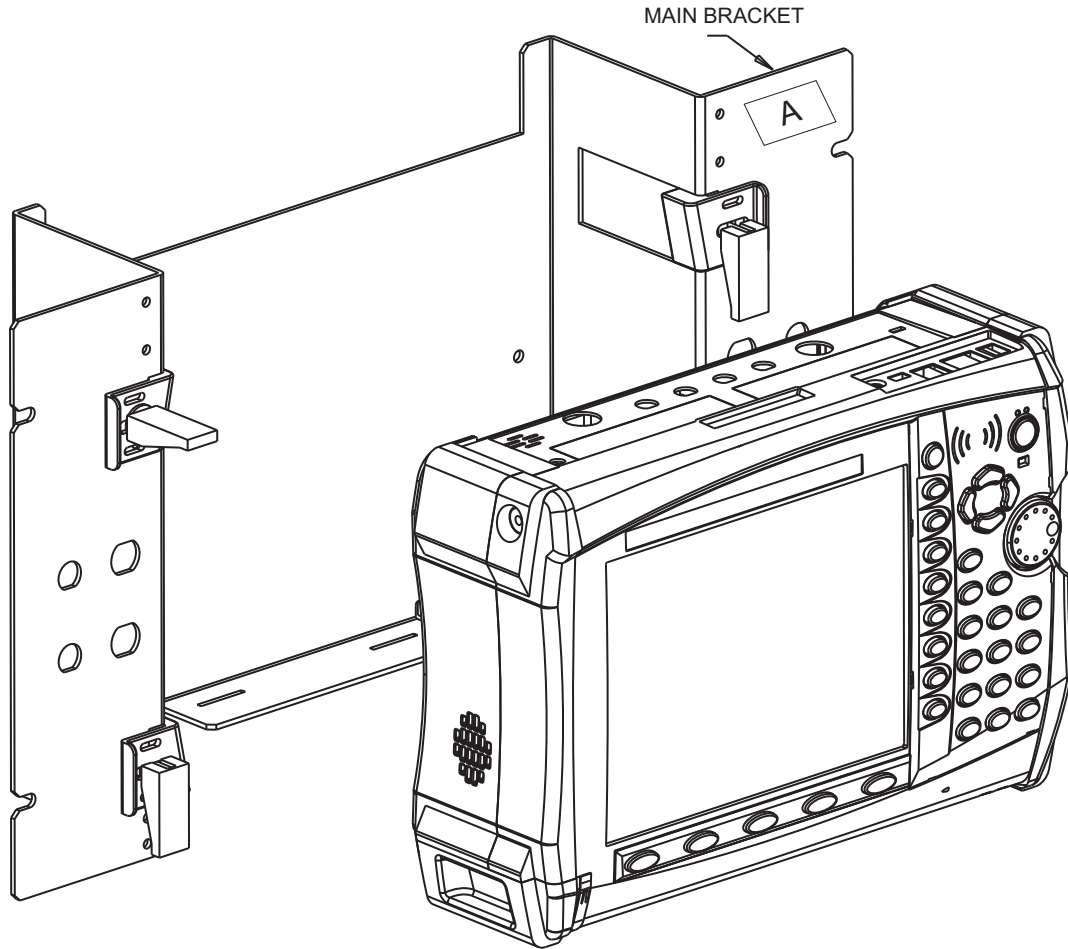
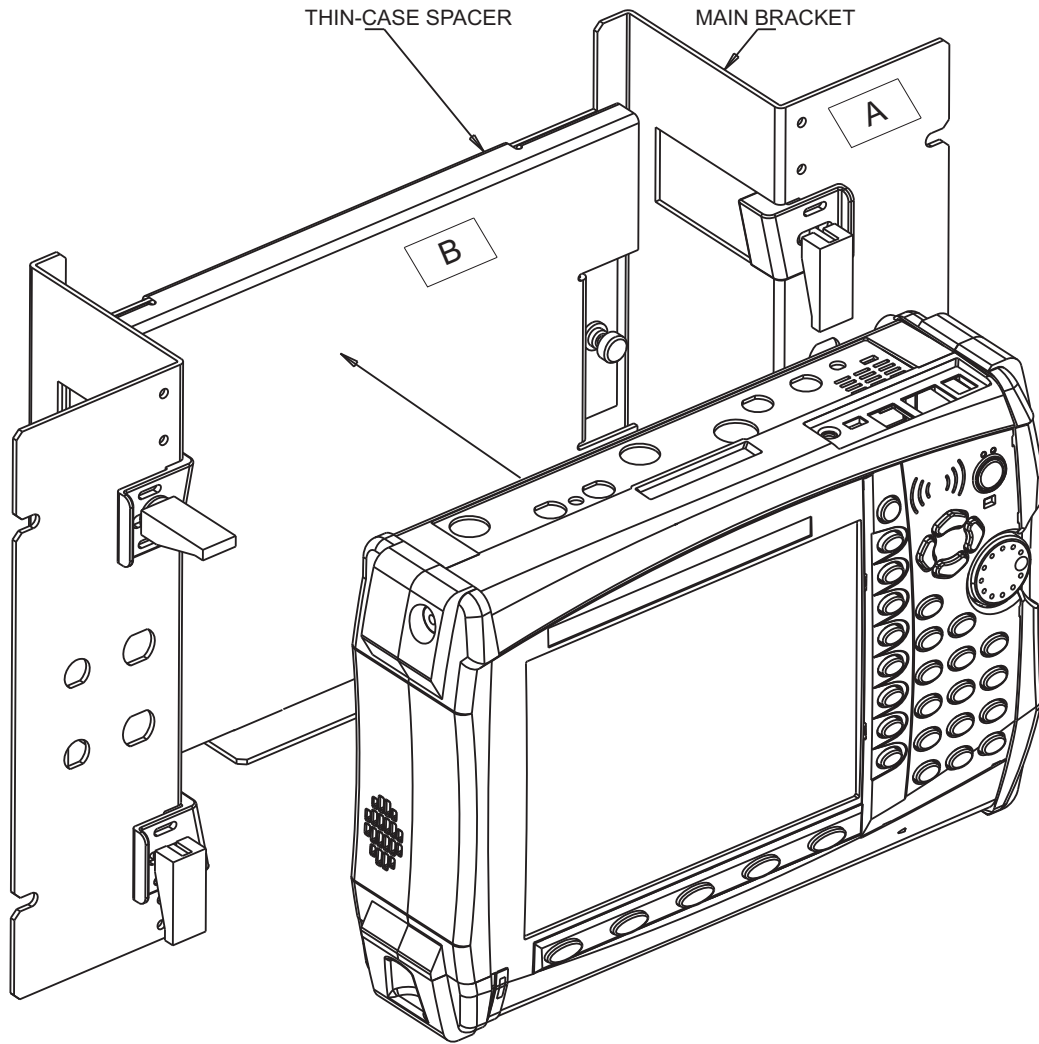

Figure 1-2. Thick-Case Rack Mount with Instrument
Figure 1-4. Thin-Case Rack Mount with Instrument
3. Loosen the 2 thumb screws that hold Thin-Case Spacer (B) (refer to Figure 1-4 on page 1-6) to Main Bracket (A).
4. Slide up Thin-Case Spacer (B), remove, and save for future use.
5. Loosen the 4 latching brackets on the rack (refer to Figure 1-2) by lifting up the latch handles.¹
7. Mount additional connectors (if needed) in the holes provided in Main Bracket (A).
4. Ensure the tightness of the thumb screws that hold Thin-Case Spacer (B) to Main Bracket (A). Refer to Figure 1-4.